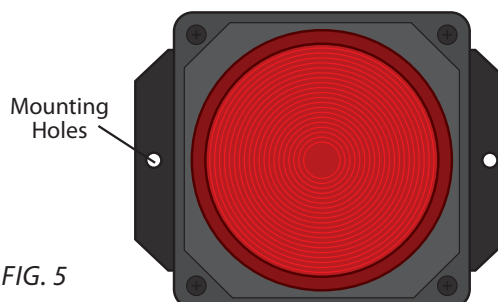

FIG. 5
- 5** The strobe light can also be mounted in a fixed position if you so choose. There are two #10 dia. mounting holes on either side of the light for your convenience. You can also mount the light using adhesive affixed to the back of the light. [FIG 5].